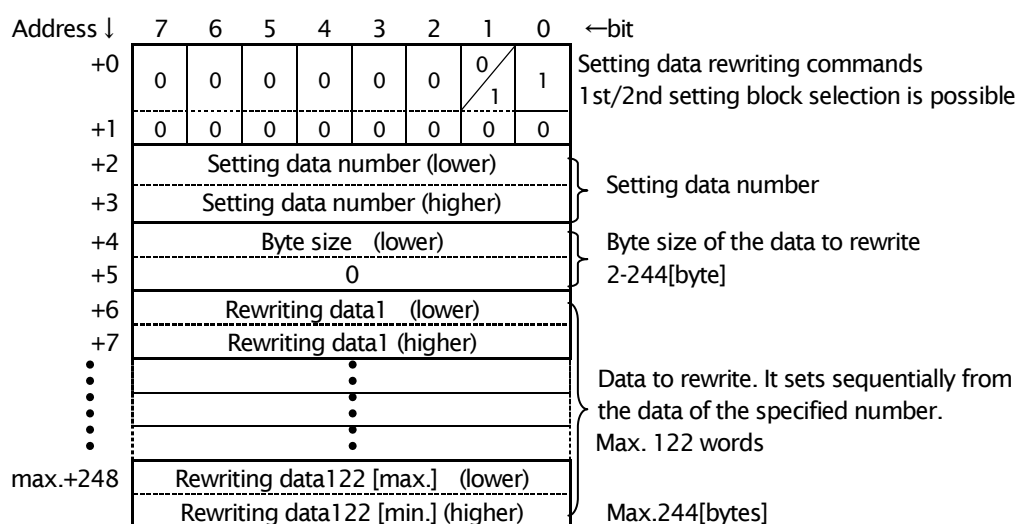

Figure 3.22 Data composition of the master station data write-in demand SDU (Setting data write-in command)
- 1) Master station transmits the data write-in demand shown in figure 3.22 to OPCN66-Z, and directs rewrite of setting data, and the number of setting data, and the total byte size of the data to rewrite. Both of the setting data, 1st / 2nd setting block, can be rewrite. Since all data sizes are 1 word (2 bytes), the byte size of data serves as even number. In the case of odd number, a part for 1 byte of the last data is disregarded. 122 words data can be rewrite at the maximum at once.